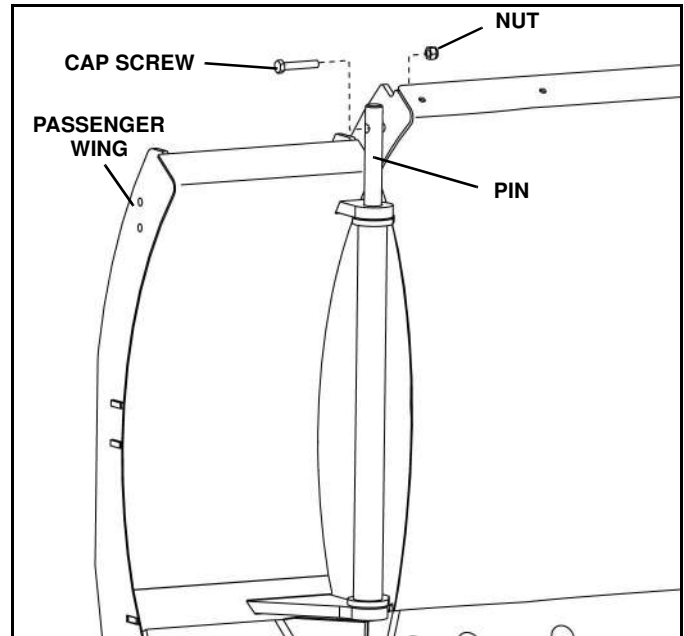

Figure 2-6
1. Align passenger side wing with blade. Coat pin with grease and insert completely through blade and wing. Install a 5/16" – 13 x 1-3/4" hex head cap screw through the pin and blade. Secure with a 5/16" locknut. Tighten the nut, but do not torque. (See Figure 2-6).